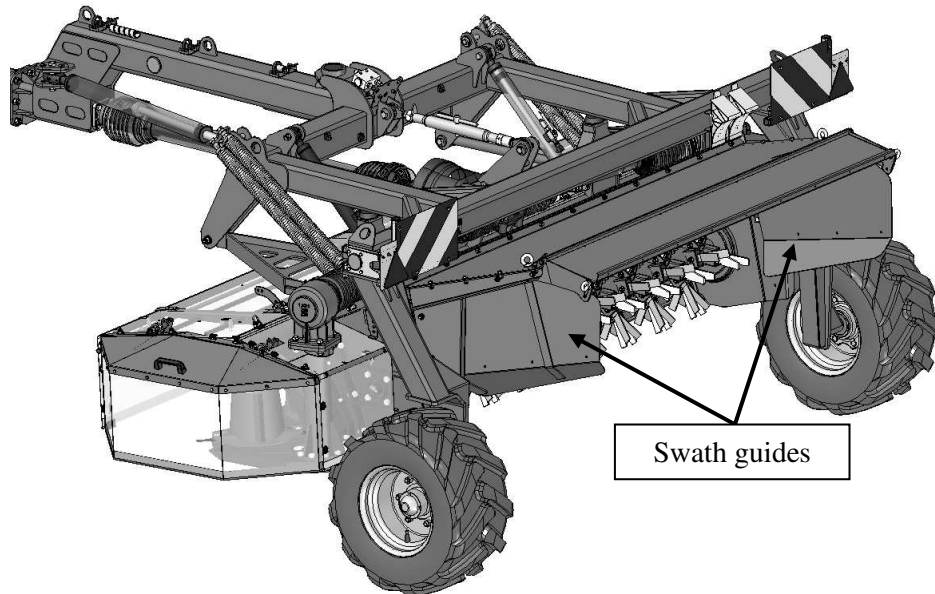

Fig. 15. Swath guides
- ❑ set the desired cutting width by folding guides back (**Fig. 15**) under proper angle,